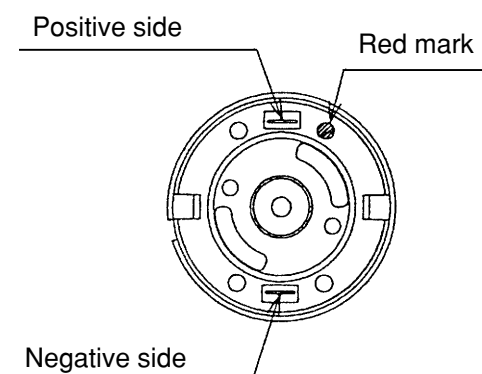

Fig. 6
- (b) Pay attention to the polarity of the Motor [26] when soldering Internal Wires (B) [33] and [34] to the Motor [26]. The red-marked side of the Motor [26] is positive. (See Fig. 6.)